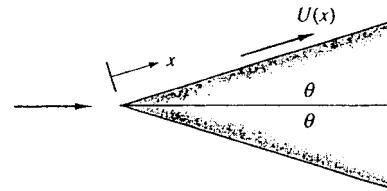

Fig. P8.65
**8.65** Potential flow past a wedge of half-angle  $\theta$  leads to an important application of laminar-boundary-layer theory called the *Falkner-Skan flows* [Ref. 15 of Chap. 8, pp. 242–247]. Let  $x$  denote distance along the wedge wall, as in Fig. P8.65, and let  $\theta = 10^\circ$ . Use Eq. (8.49) to find the variation of surface velocity  $U(x)$  along the wall. Is the pressure gradient adverse or favorable?